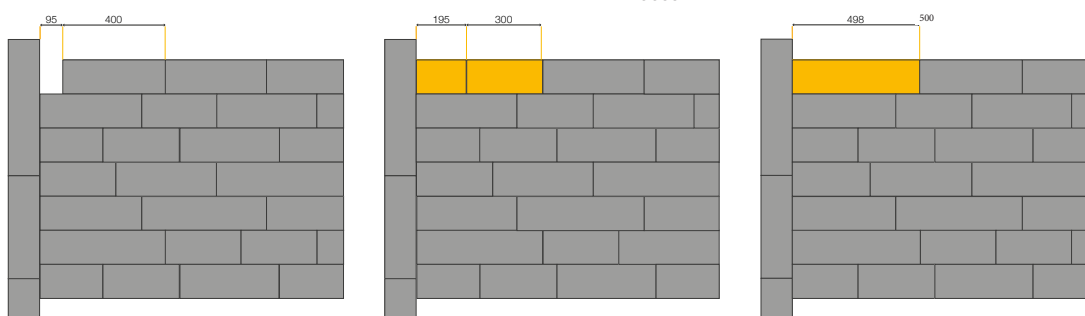

fig.1 Manhattan mixed length pattern pack
- For cutting-in, choose units that are closest to the required size and remove as little as possible from the block. Never use pieces less than 125mm in length (half of smallest unit); instead look to use smaller whole units prior to cut piece, thereby allowing a bigger cut piece to be fitted. (see fig.1)